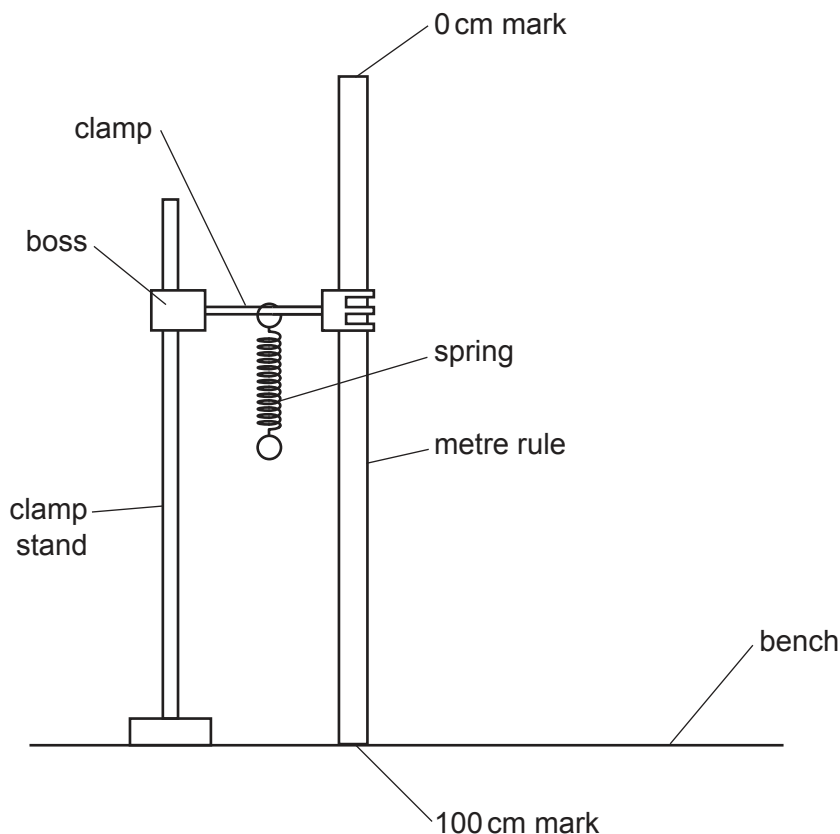

Fig. 1.1
2. The apparatus is to be set up for the candidates as shown in Fig. 1.1. The spring is to be suspended from the clamp, supported by a boss and stand. The spring must be sufficiently high above the laboratory bench so that when the 1.00 N load is suspended from the spring, the bottom of the load is above the surface of the bench.
Check that the apparatus is set up ready for the next candidate, as shown in Fig. 1.1, with the spring near to the metre rule.